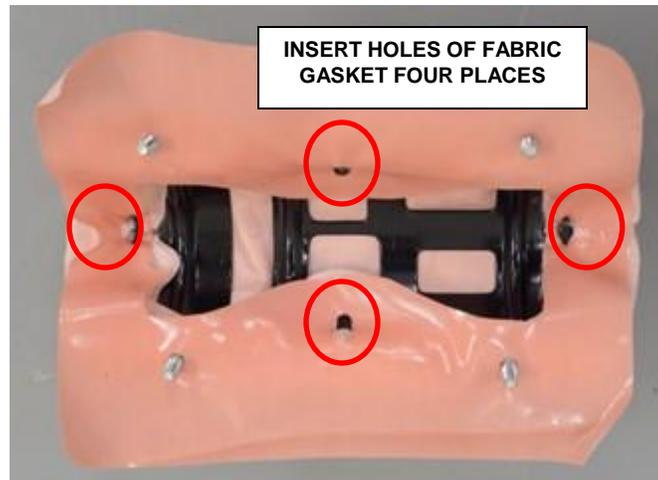

Figure 19 – Fabric Gasket
- i. With the help of a trim tool insert the holes of fabric gasket, four places (Figure 19).